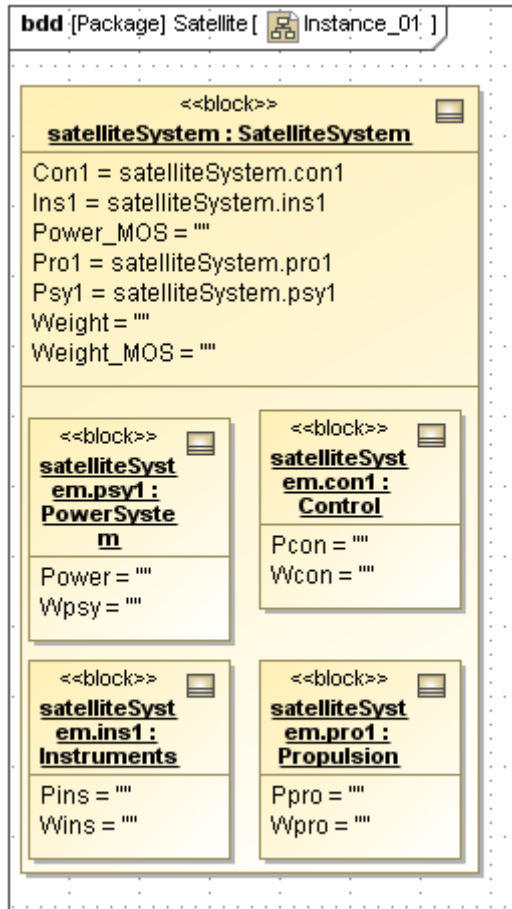

Figure 3.8 Satellite Instance_01 Diagram, after wizard
- b. The diagram Instance_01 looks similar to Figure 3.8